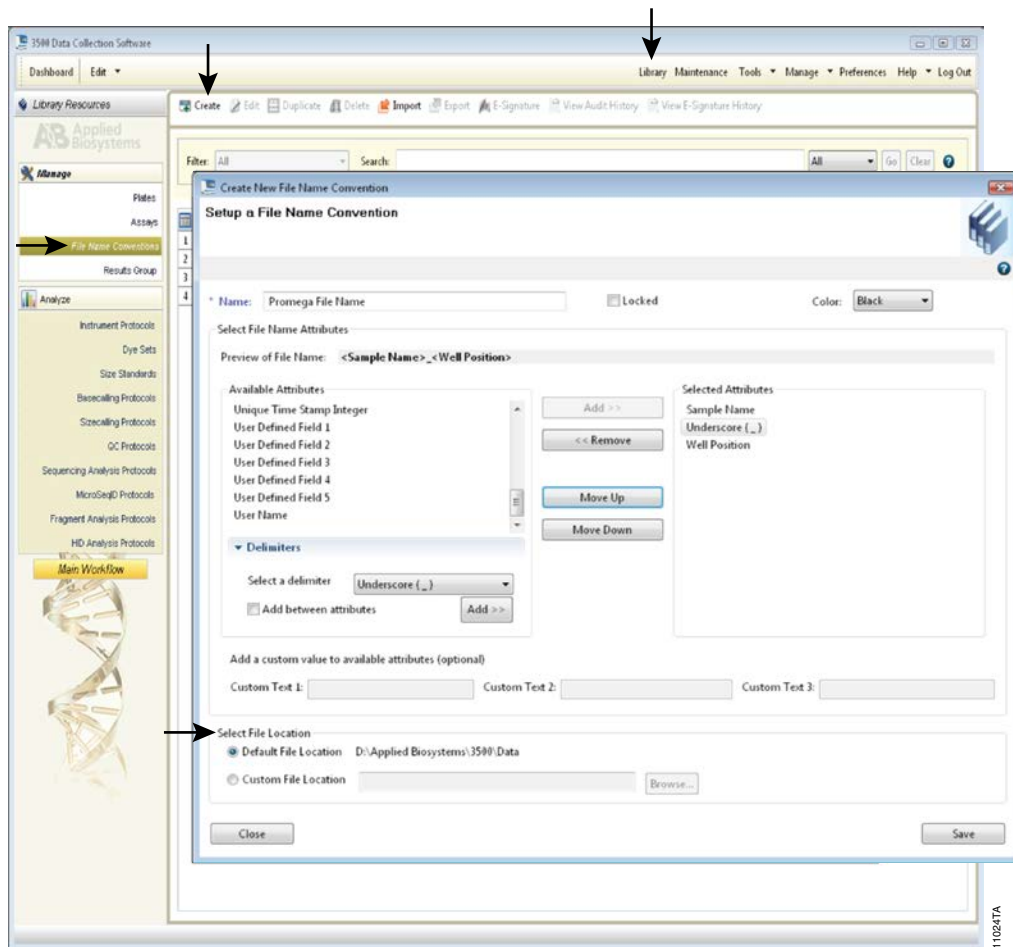

Figure 9. The Create New File Name Convention window.
- To create a new File Name Convention, navigate to the Library. Select “File Name Conventions”, then select “Create” (Figure 9). Select the File Name Attributes according to laboratory practices, and save with a descriptive name. Under “Select File Location” choose “Default File Location”, or choose “Custom File Location” and navigate to your custom location. Select “Save” then “Close”.